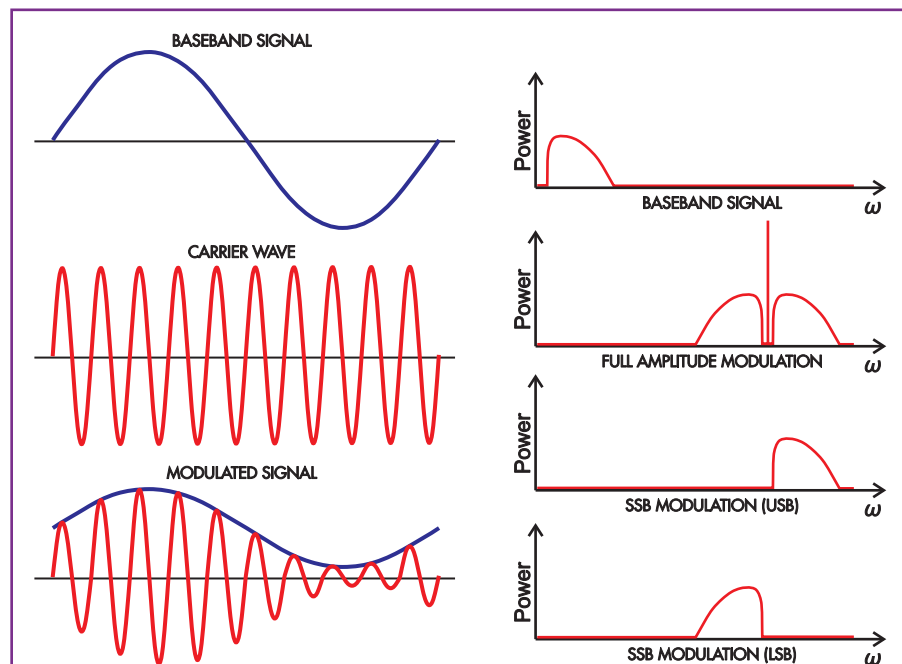

Fig.9: the basic principle of amplitude modulation (AM). The high-frequency carrier amplitude varies with the instantaneous baseband signal amplitude.
multiplied by an audio frequency (AF) signal, as shown in Fig.9. We get a signal with components in three frequency ranges: the original carrier, plus two 'side-bands', being the sum and difference (see Fig.10).